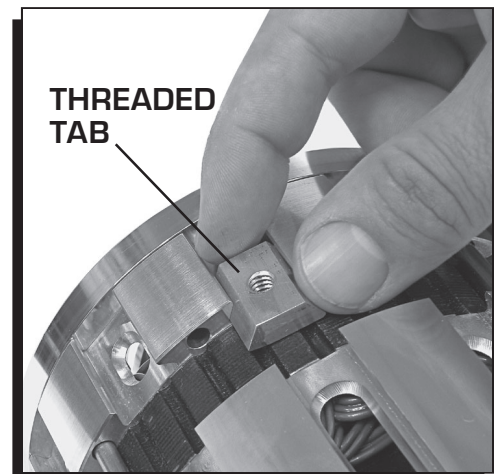

Figure 1 Installing the Slide-Loc Tabs.
1. Start with the lower bracket or the one that serves as the primary mount. Once this location has been identified on the alternator housing, insert the threaded Slide-Loc tabs into the appropriate slots on the Alternator (Figure 1).